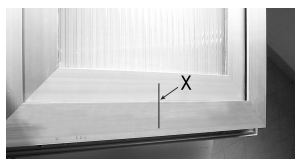

Figure 2
- A. Trace centrepoint X in pencil onto the window frame (Fig.2) or fairly divide it in case of use of more Syncro³.